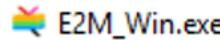

Figure 2. File icon of E2M-Win
1. **Launch E2M-Win** by double-clicking the application icon as shown in Figure 2.